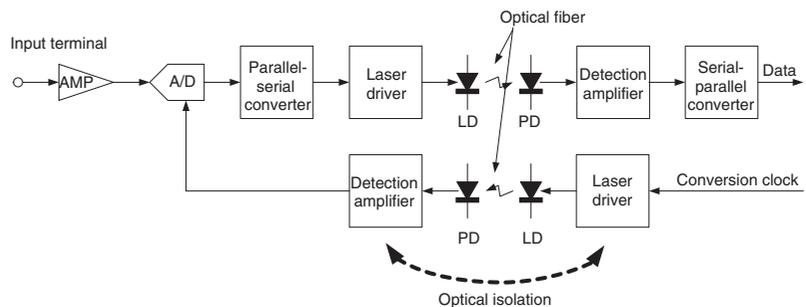

Figure 3 Principle of High Voltage Isolation
To realize this high-speed sample rate and high-voltage isolation, we have developed an isolation method to optically convert data digitalized in the module and send the data to the main unit through optical fiber. Figure 3 shows the principles of this method. Input signals are normalized at the amplifier and digitalized at the A/D converter in the module. The digitalized data is converted to serial data, then converted to the optical signal by a semiconductor laser diode (LD), and sent to the main unit through optical fiber. In the main unit, a photodiode (PD) is used to convert the optical signal to electrical